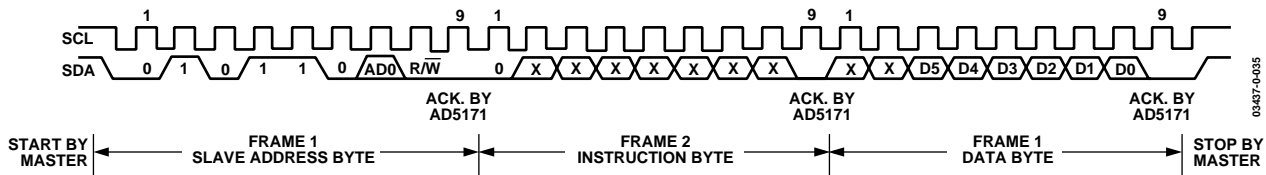
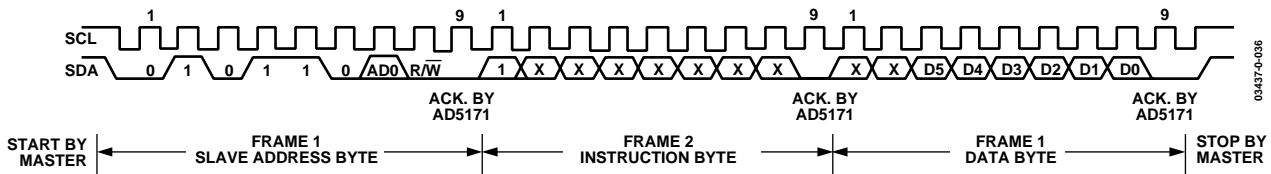
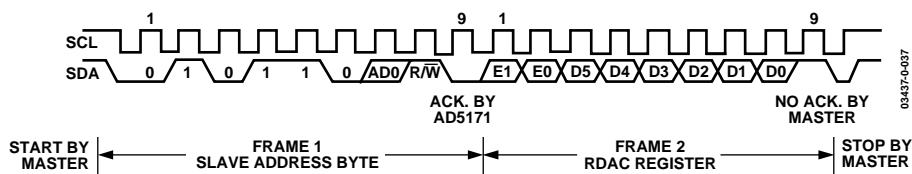
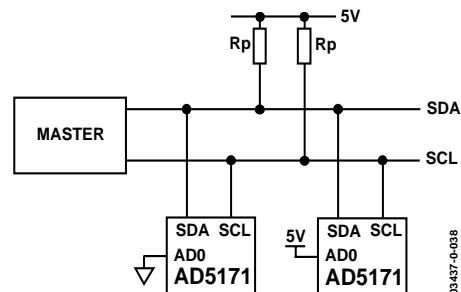

Figure 36. Writing to the RDAC Register
Figure 37. Activating One-Time Programming
Figure 38. Reading Data from RDAC Register
Figure 39. Two AD5171 Devices on One Bus
For users who prefer to use external controllers, the AD5171 can be controlled via an I²C compatible serial bus; the part is connected to this bus as a slave device. Referring to Figure 36, Figure 37, and Figure 38, the 2-wire I²C serial bus protocol operates as follows:
1. The master initiates data transfer by establishing a START condition, which is when SDA goes from high to low while SCL is high (Figure 36 and Figure 37). The following byte is the slave address byte, which consists of the 6 MSBs as a slave address defined as 010110. The next bit is AD0, which is an I²C device address bit. Depending on the states of their AD0 bits, two AD5171s can be addressed on the same bus (Figure 39). The last LSB is the R/W bit, which determines whether data is read from, or written to, the slave device.
2. The write operation contains one instruction byte more than the read operation. The instruction byte in the write mode follows the slave address byte. The MSB of the instruction byte labeled T is the one-time programming bit. After acknowledging the instruction byte, the last byte in the write mode is the data byte. Data is transmitted over the serial bus in sequences of nine clock pulses (eight data bits followed by an Acknowledge bit). The transitions on the SDA line must occur during the low period of SCL and remain stable during the high period of SCL (Figure 36).
3. In the read mode, the data byte follows immediately after the acknowledgment of the slave address byte. Data is transmitted over the serial bus in sequences of nine clock pulses (note the slight difference from the write mode; there are eight data bits followed by a No Acknowledge bit). Similarly, the transitions on the SDA line must occur during the low period of SCL and remain stable during the high period of SCL (Figure 38).
4. When all data bits have been read or written, a stop condition is established by the master. A stop condition is defined as a low-to-high transition on the SDA line while SCL is high. In the write mode, the master pulls the SDA line high during the 10th clock pulse to establish a stop condition (Figure 36 and Figure 37). In the read mode, the master issues a No Acknowledge for the 9th clock pulse, i.e., the SDA line remains high. The master then brings the SDA line low before the 10th clock pulse, which goes high to establish a STOP condition (Figure 38).
Figure 39 shows two AD5171 devices on the same serial bus. Each has a different slave address since the state of each AD0 pin is different. This allows each device to be independently operated. The master device output bus line drivers are open-drain pull-downs in a fully I²C compatible interface.